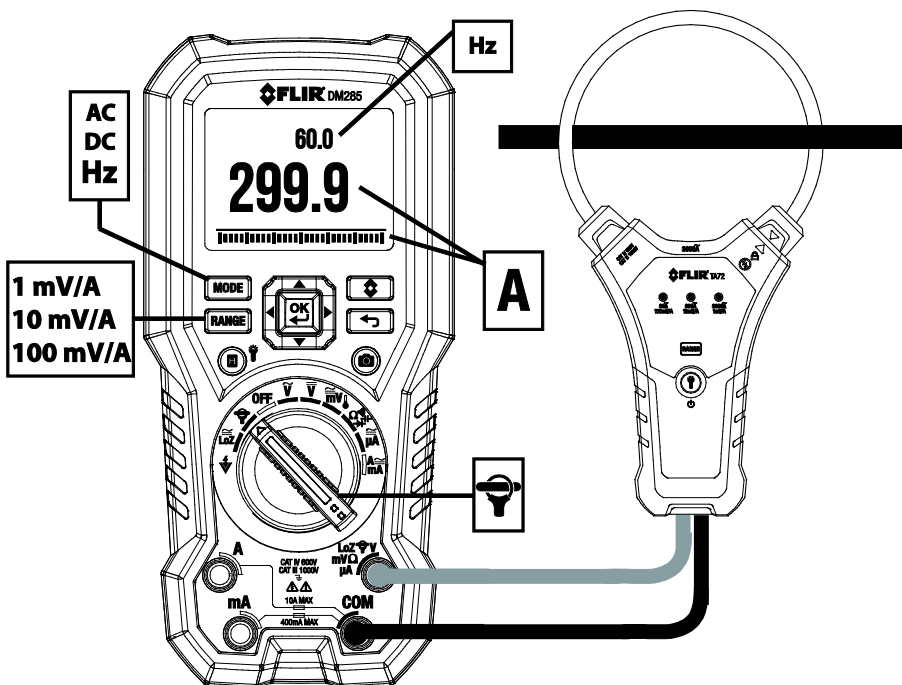

Fig. 9-12 FLEX Clamp Adaptor Application
2. Connect a Clamp adaptor as shown in **Fig. 9-12**.